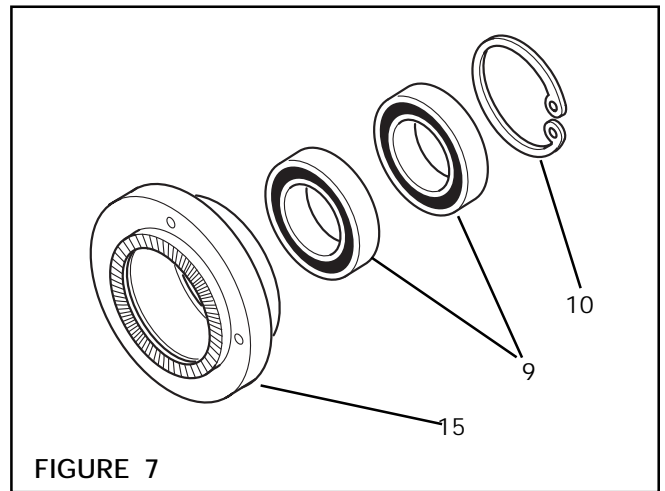

FIGURE 7
1. Remove Retaining Ring (Item 10) (See Figure 7).
2. Push the Ball Bearings (Item 9) out of Drive Flange (Item 15) (See Figure 7).